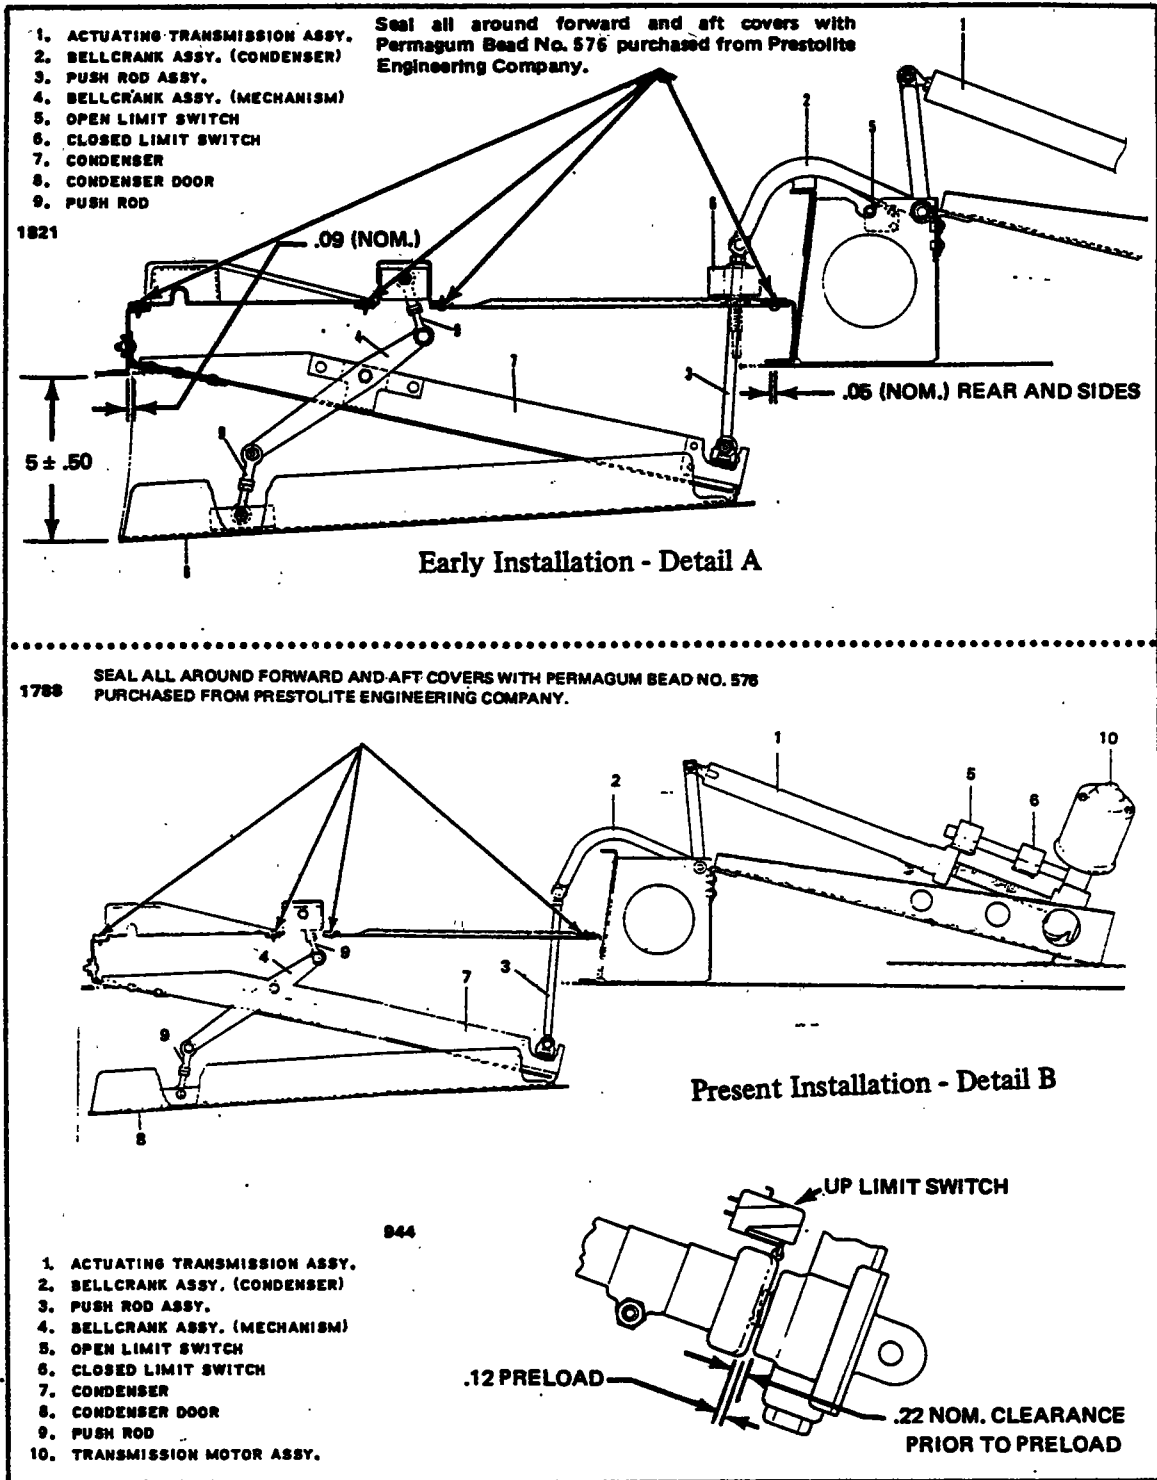

Figure 14-12. Condenser Air Scoop Installation
- b. Place the condenser and frame assembly to the fuselage frame mounting bracket and insert the (8) screws into the piano hinge.
- f. Seal all around forward cover panel (and aft cover panel if removed) with Permagum Bead No. 576 purchased from Prestolite Engineering Company. (See Figure 14-12.)
14-34. CONDENSER DOOR ACTUATOR. The actuator is on a bracket mounted between two bulkheads in the tail cone. It is coupled to the condenser assembly through a bellcrank mounted to a bracket on the bulkhead aft of the condenser. The actuator travel is controlled by two limit switches. On early installations the down switch is located on the inboard bellcrank support and the up switch on the condenser frame. On later installations both the up and down switches are located on the actuator. Refer to Figure 14-12 for the switch locations of the particular installation.
### 14-35. CONDENSER ASSEMBLY RIGGING INSTRUCTIONS. (Refer to Figure 14-12.)
There are two installations of this system. The first or early installation had the limit switches located as shown in Figure 14-12, Detail A. The second or present installation has the limit switches located as shown in Figure 14-12, Detail B. The instructions covering the adjustment of the limit switches will be covered in separate steps.
#### Early Installations: (Refer to Figure 14-12, Detail A.)
#### Present Installations: (Refer to Figure 14-12, Detail B.)
a. Adjust open limit switch (5) to open the condenser door (8) 5.00 + .50 inches when measured from the leading edge of the door to the fuselage skin.
b. Adjust the push rods (9) so that a vertically measured gap of .16 of an inch exists along the trailing edge of the door at the instant the forward edge of the door becomes flush with the fuselage skin.
c. With the door fully closed adjust the "CLOSED" (6) limit switch so that the actuator (1) travels an additional .12 of an inch after the door is fully closed, this is necessary to preload the mechanism. Refer to Figure 14-12, Detail B - View AA.